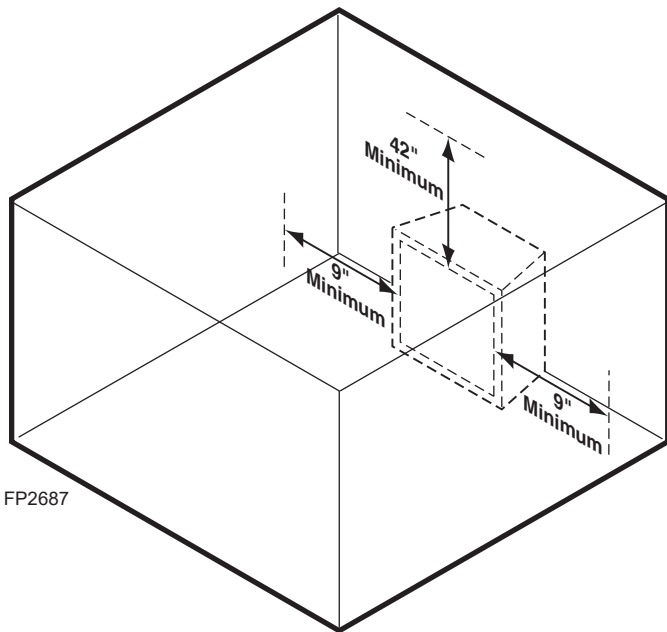

Figure 6.1 Clearance and Height Requirements
Ensure that minimum clearances shown in Figures 6.1 through 6.3 are maintained. Left and right clearances are determined when facing the front of the firebox.
- Sidewall clearances:** The clearance from the inside of the appliance to any combustible wall should not be less than 9". See Figure 6.1.
- Ceiling clearance:** The ceiling must be at least 42" from the top of the firebox opening. See Figure 6.1.